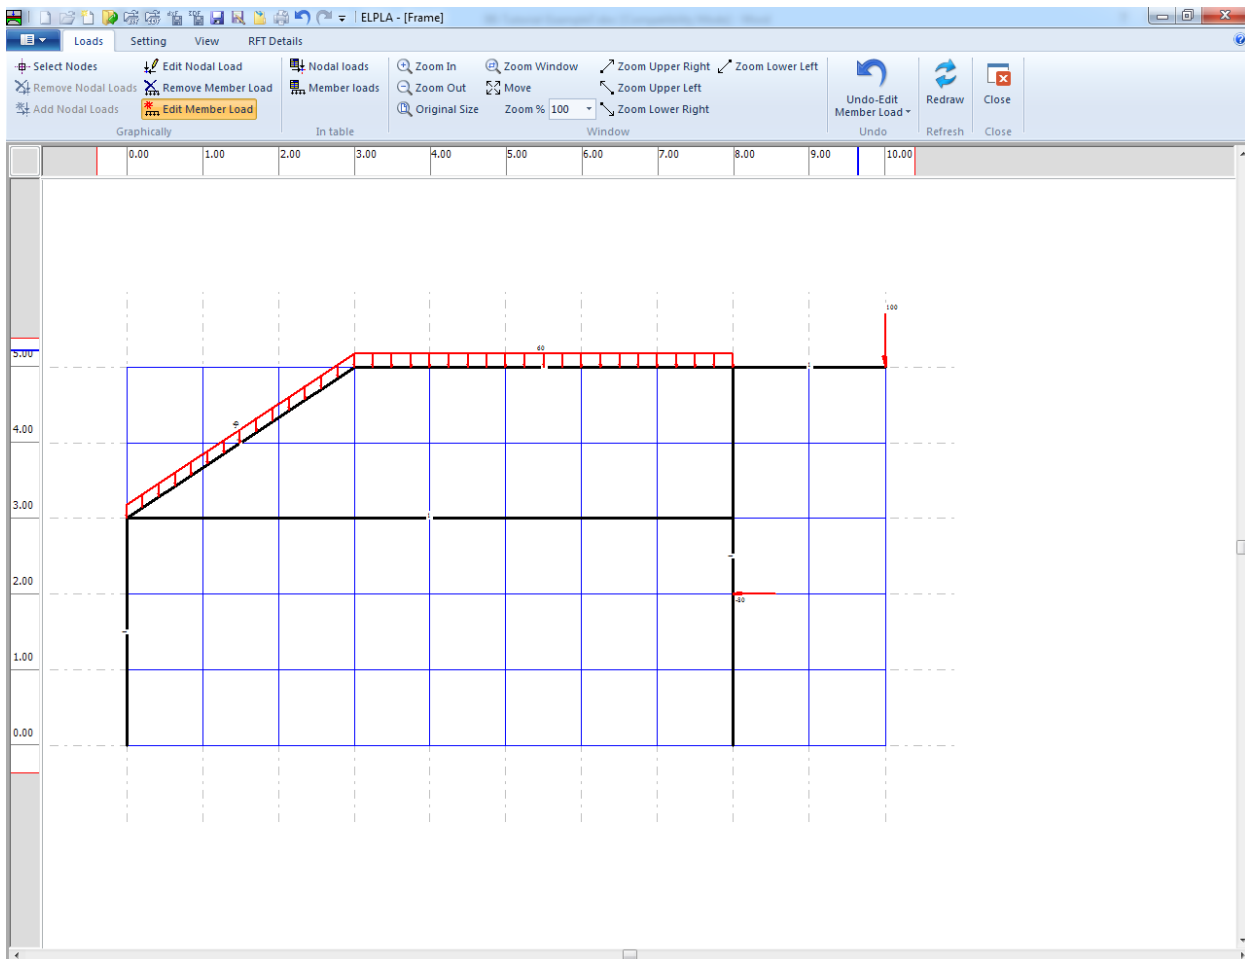

Figure 7.35 Frame load
Use the same steps to input the uniform distributed load on the inclined member. After you have completed the definition of the load data, the screen should look like the following Figure 7.35.
- Choose " Save" command from "File" menu in Figure 7.35 to save the load data
- Choose "Close" command from "File" menu in Figure 7.35 to close the "Loads" Window and return to *ELPLA* main window.